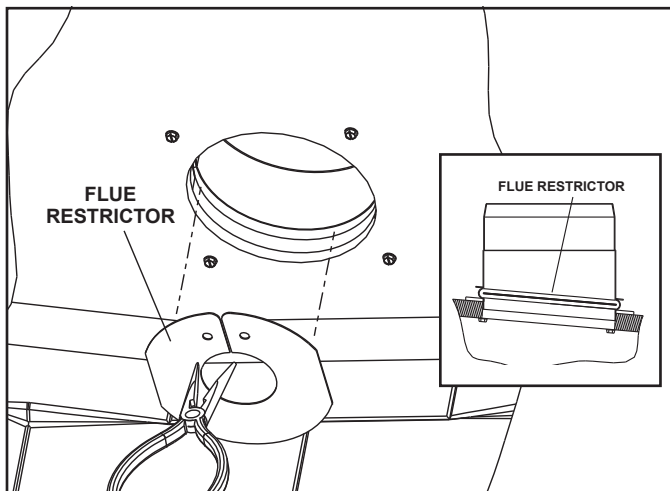

Figure 7.7
1. The flue restrictor (Figure 7.7) is located behind the right side panel. Use the restrictor if the vertical vent run is over 20 feet and has NO elbows.